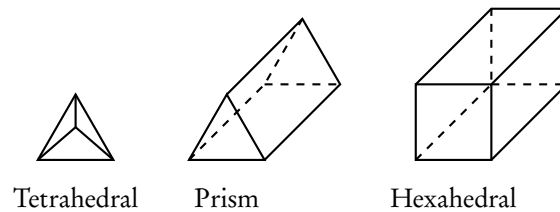

Figure 3.1: Shapes of common three dimensional elements.
4. Fill the interior of the solid body with a volume mesh of tetrahedral, hexahedral, or prism elements (see Figure 3.1) that are based on the surface meshes. A .cmdb file containing all of the mesh information and named selection information is written at the end of this step.